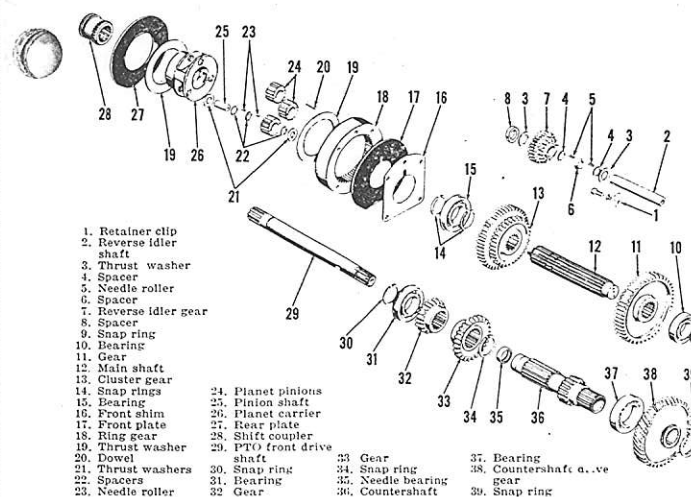

Fig. 214—Exploded view of transmission shafts, gears and associated parts used on models without "Multipower" transmission.
180. To remove the transmission main shaft (12—Fig. 214), first remove the transmission assembly as outlined in paragraph 174, clutch shaft as in paragraph 177 and shifter rails and forks as in paragraph 179. Remove the four cap screws securing the planetary unit to rear of transmission case and withdraw rear cover plate (27), thrust washer (19) and planet carrier (26). Using two screw drivers, work the planetary ring gear (18) and dowels from case. Remove planetary front cover (17) and shim (16).
181. To remove the countershaft (36—Fig. 214), first remove mainshaft as outlined in paragraph 180 and proceed as follows:
(37) can be removed from shaft (2—Fig. 214) is retained by clip (1) which fits a notch in shaft. Reverse idler bearing consists of two rows of loose needle rollers (5) separated by spacers (4 & 6). A total of 56 rollers (5) are used. Assemble by reversing the removal procedure, using Fig. 214 as a guide.
Reverse idler shaft (2—Fig. 214) is retained by clip (1) which fits a notch in shaft. Reverse idler bearing consists of two rows of loose needle rollers (5) separated by spacers (4 & 6). A total of 56 rollers (5) are used. Assemble by reversing the removal procedure, using Fig. 214 as a guide.
Planet pinion shafts (25—Fig. 214) are a tight press fit in planet carrier (26); use a suitable press when re-